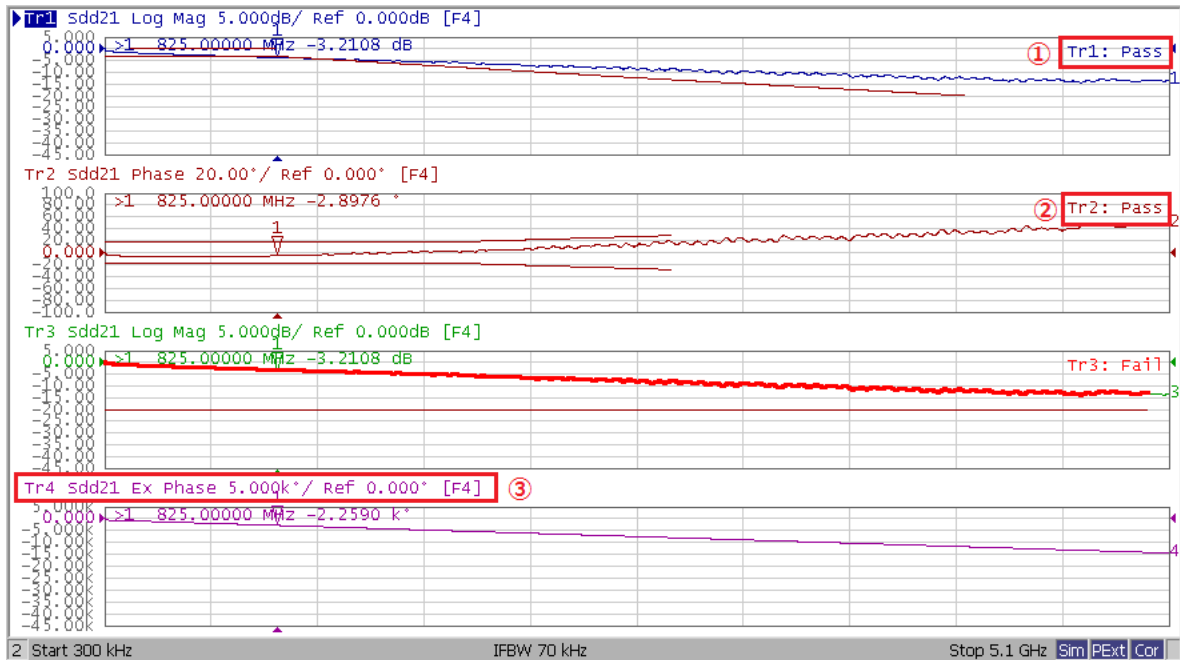

Figure 5-9 Attenuation and Phase Measurement Example
Read Pass/Fail sign on Trace1 (item1 in Figure 5-9).
Read Pass/Fail sign on Trace2 (item2 in Figure 5-9).
This measurement is only used for the phase measurement calculation (item3 in Figure 5-9).